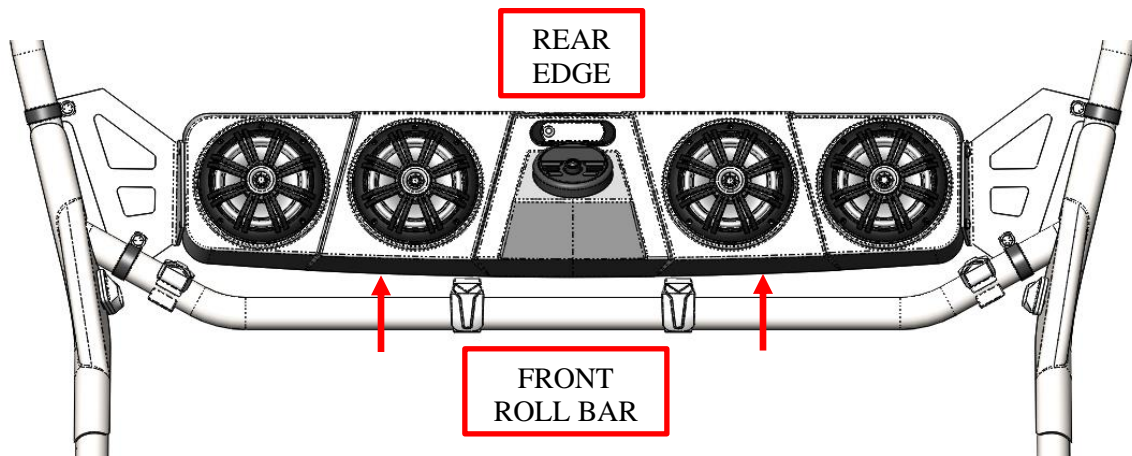

Figure 6: Audio Mini equally spaced from front roll bar.
4. Tighten the 4 loop clamp bolts so that the *Audio Mini* is equally spaced from the front roll bar. See Figure 6.